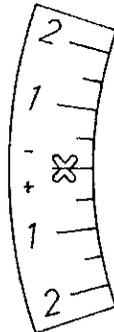

Fig. 1
1. Clamp the mirror 42-253.01-Z1 W108 against the fixed camera platform below the aperture of the synchro-test unit. Push the synchro-test unit 42-253.01-Z1 W98 against the Vinidur stops of the calibrating unit 42-253.01-Z1 W77 so that the scale of the calibrating unit is in front of the mirror 42-253.01-Z1 W108. Before calibration, turn the knob in the left-hand side of the synchro-test unit clockwise; key 6 must not be depressed. Connect both instruments to the mains supply, and link them to each other with the cable of the calibrating unit.
2. Depress the key 5 of the synchro test unit. Briefly press the white button on the calibrating unit. The X (cross) mark must appear exactly on the 0 (zero) division on the scale of the calibrating unit (see fig. 1). If this is not the case, slacken the milled screw at the left of the calibrating unit and align the 0 division accurately with the X (cross) mark.